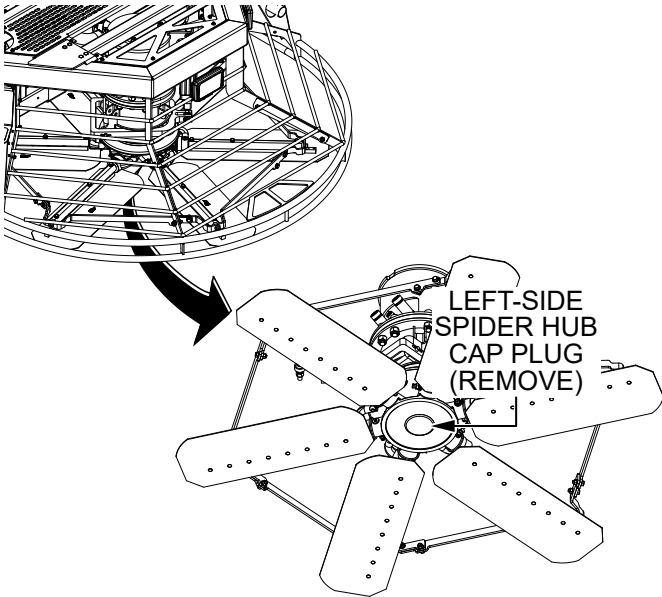

Figure 12. Remove Left-Side Spider Hub Cap Plug
1. Remove the left-side spider hub cap plug (Figure 12) and set it aside.